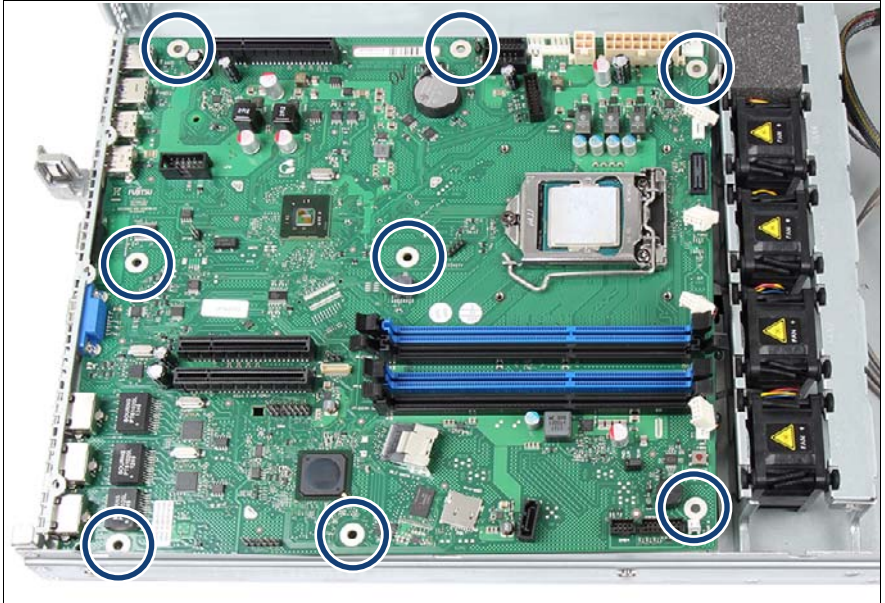

Figure 203: Position of the screws
- ▶ Fasten the system board with the eight screws (see figure 203 on page 279).